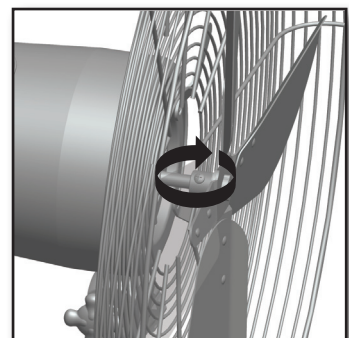

Figure 14.
4. Tighten the Screw on the Blade(10) to secure it to the Motor(5). Figure 14.